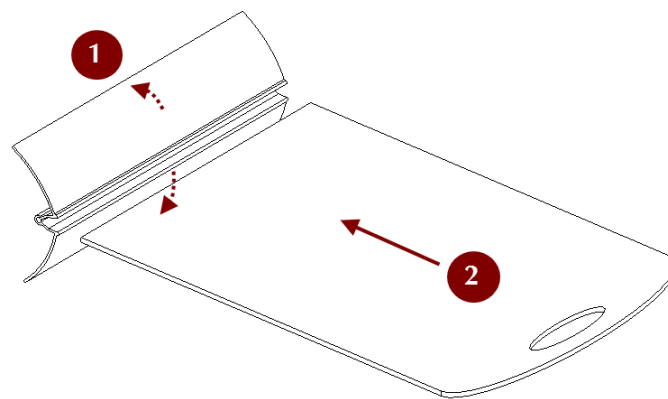

Figure 245: Assembling the rig.
3. Insert the board into the slot, as Figure 245 shows.